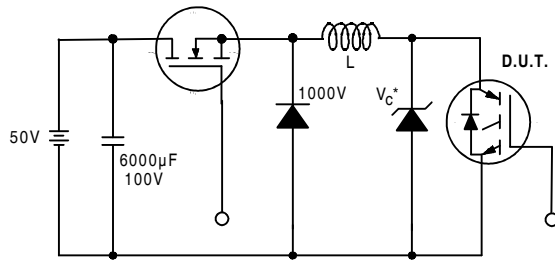

Figure 19. Clamped Inductive Load Test Circuit
- ② $V_{CC}=80\%(V_{CES})$, $V_{GE}=20V$, $L=10\mu H$, $R_G = 5.0\Omega$ (figure 19)
- ③ Pulse width $\leq 80\mu s$; duty factor $\leq 0.1\%$.
- ④ Pulse width $5.0\mu s$, single shot.